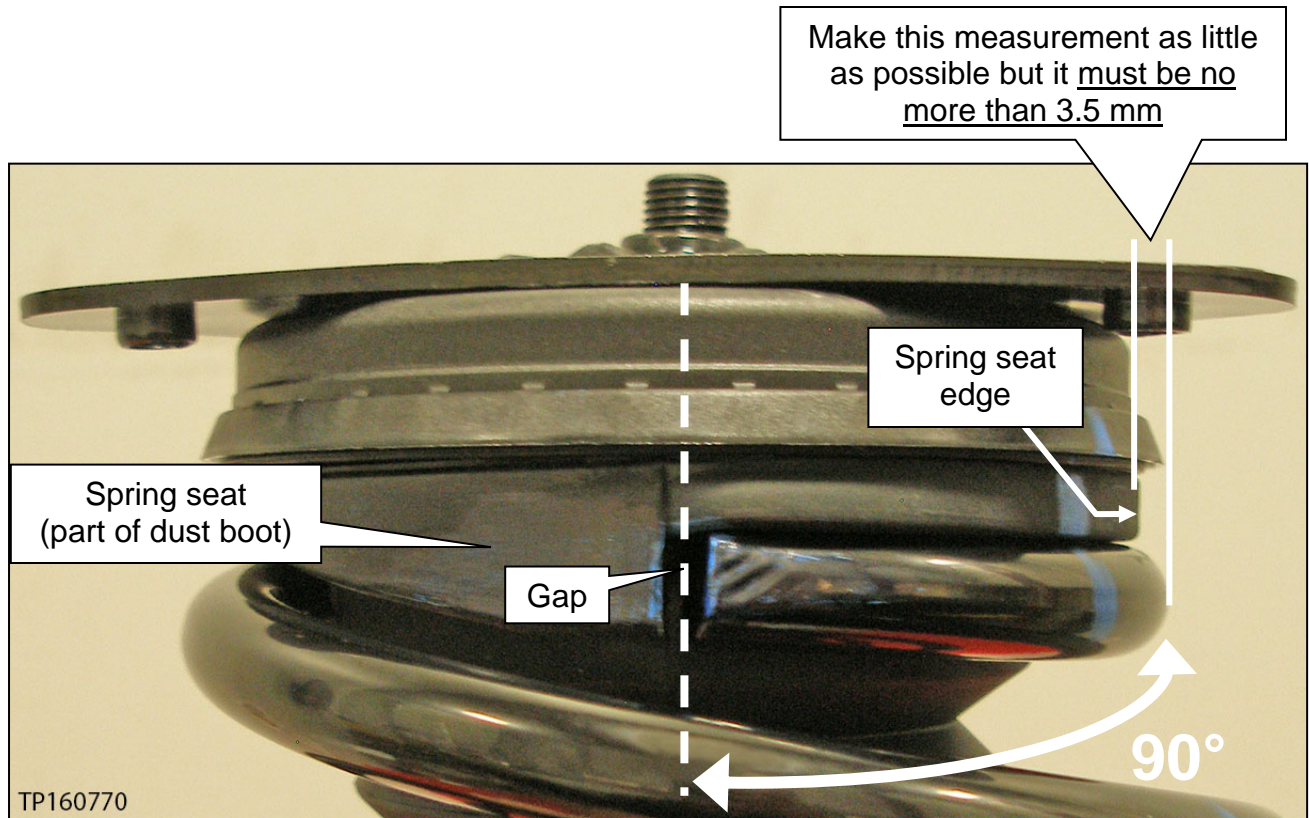

Figure 5
- The side edge of the upper coil spring, located 90° counter clockwise from the gap, needs to be as little as possible but it must be no more than 3.5 mm from the edge of the spring seat (Figure 5).